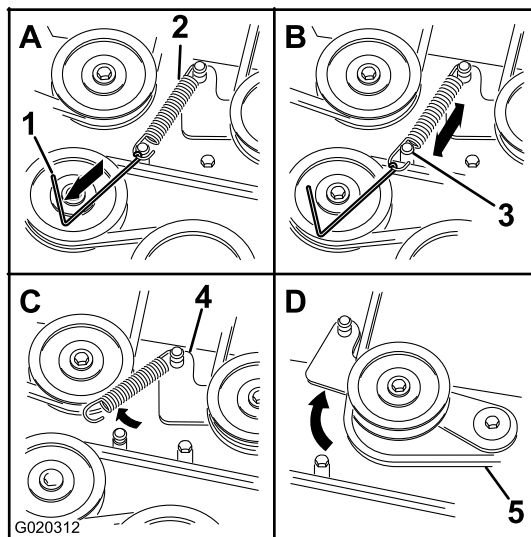

Figure 64
7. Using a spring removal tool, (Toro Part No. 92-5771), remove the idler spring from the deck post to remove tension on the idler pulley (Figure 64).
10. Install the new belt around the mower pulleys and the clutch pulley under the engine (Figure 64).
11. Using a spring-removal tool (Toro Part No. 92-5771), install the idler spring over the deck post and placing tension on the idler pulley and mower belt (Figure 64).